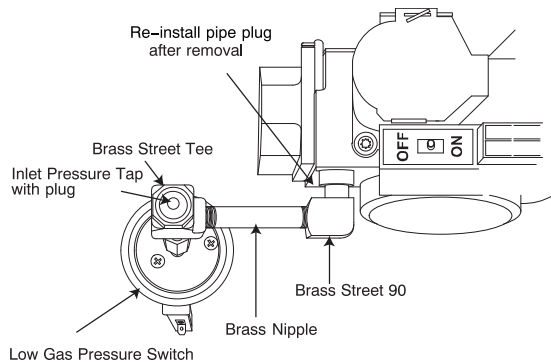

Fig. 10 – Alternate Low Gas Pressure Switch Removal L13F012
If the vent pipe does not pass between the inducer and burner assembly, or the furnace is wider than a 14 3/16-in. (360 mm) wide casing. The switch may be installed as shown in Fig. 10.
1. Remove Low Gas Pressure Switch, brass street tee, brass nipple and brass street 90° elbow from the gas valve inlet pressure tap. See Fig. 10.